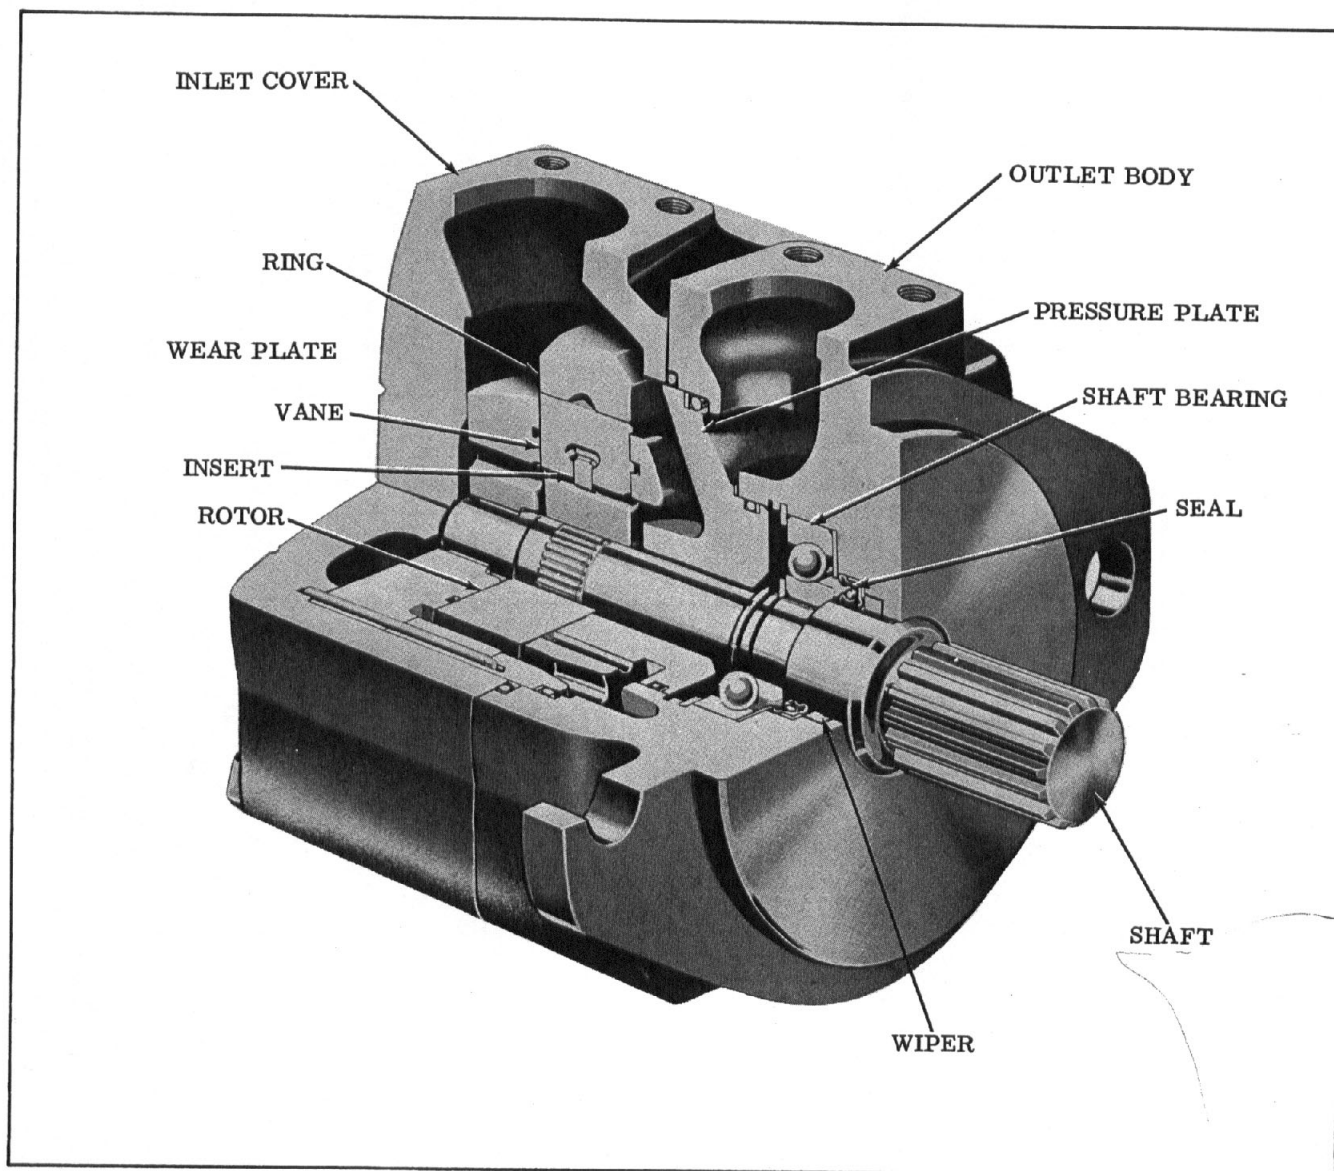

Figure 1 - Cutaway View of Typical High
1. Basic Pumps - The pump illustrated in Figure 1 is representative of all single pumps in these